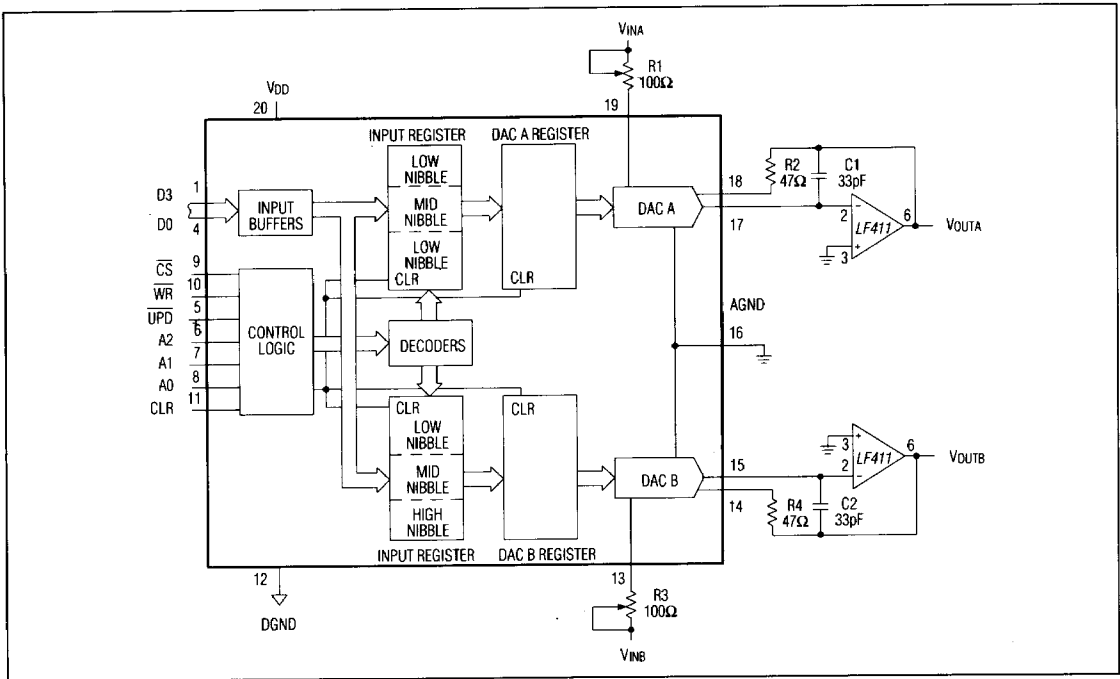

Figure 3. Dual DAC Unipolar Binary Operation (Two-Quadrant Multiplication)
The current output can be converted to a voltage by adding an external output amplifier (Figures 3, 4). The VREF input accepts a wide range of signals, including fixed and time-varying voltage or current inputs. Consider the temperature coefficient of R1 (R3) and R2 (R4) to minimize gain variation with temperature. The internal feedback resistor is compensated with an NMOS switch that matches the NMOS switches used in the R-2R array. This yields excellent supply rejection and gain temperature coefficients.
Figure 3 shows the most common configuration for the MX7549 that is used for unipolar binary operation or two-quadrant multiplication when V_{IN} is an AC signal. For full-scale adjustment, load 1's into the DAC A register, and trim R1 until $V_{OUT-} = -V_{IN}(4095/4096)$. Alternatively, R1-R4 can be omitted, and the reference voltage can be adjusted to compensate for full-scale error. DAC B full-scale errors are trimmed in the same manner.
The MX7549 has a maximum gain temperature coefficient (TC) of $\pm 5 \text{ ppm}/^\circ\text{C}$. If the trim resistors in Figures 3 or 4 are used to adjust full-scale gain error, consider their TC as part of total gain error over the temperature range. Select resistors R5, R6, and R7 (R8, R10, R9) so all ratios match to 0.01% and have low-temperature coefficients (e.g. RN-type metal film).